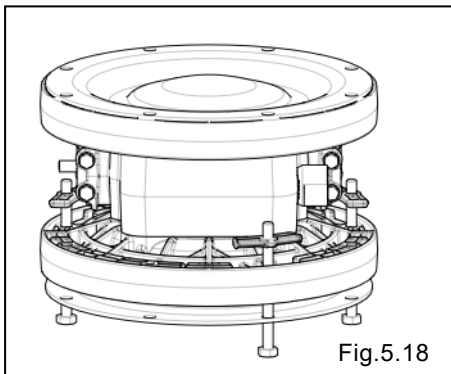

Fig.5.18
- When tightening the diaphragm at Fig. 5.20, the holes on the diaphragm should be at the same positions as the 8 screw holes on the air-chamber. Basically, those hole positions should be adjusted by rotating the diaphragm clockwise. If it is difficult, move the diaphragm counter-clockwise a little bit to adjust them [Fig.5.18]
- Install the out-chamber to the side where the diaphragm has been put on, as mentioned in the above Fig.5.21. [Fig.5.18].